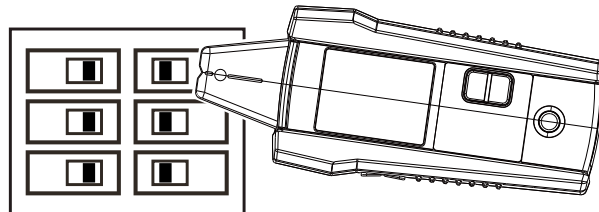

Figure 3.2d: Aligning the Tip Sensor groove with the breaker
2. Align the groove on the Tip Sensor with the breaker lengthwise (See Figure 3.2d).